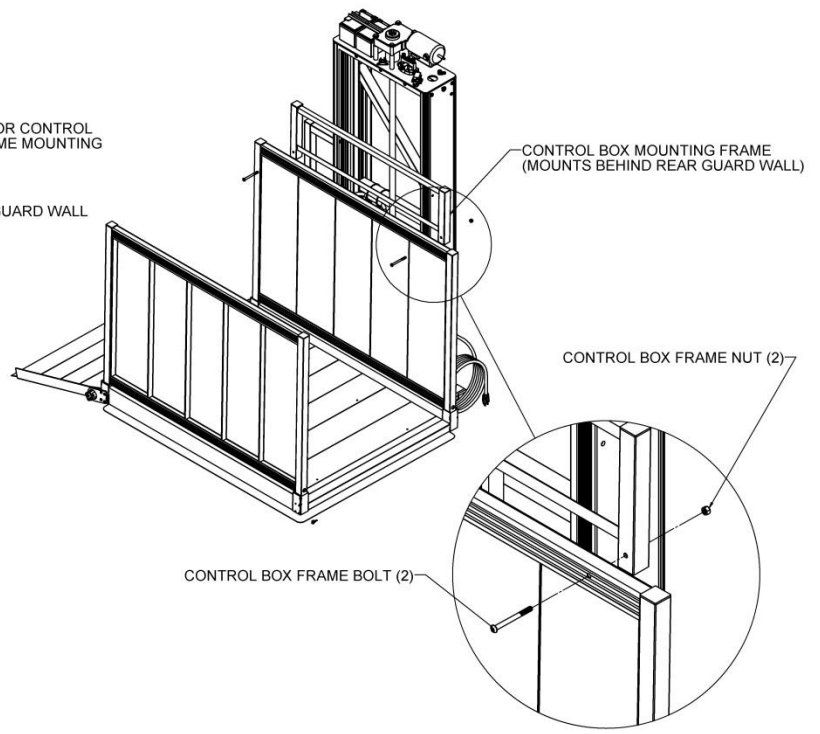

FIG. 4.8
- 👉 Make sure guard wall with two holes in top rail is installed closest to the tower as shown (FIG. 4.8).